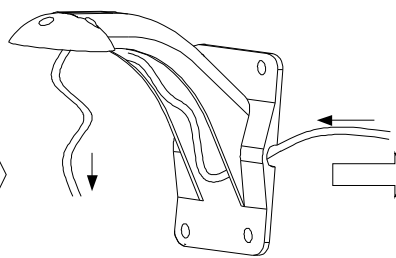

Figure 8
- 3) Take out system control wires from the bracket (see Figure 8).